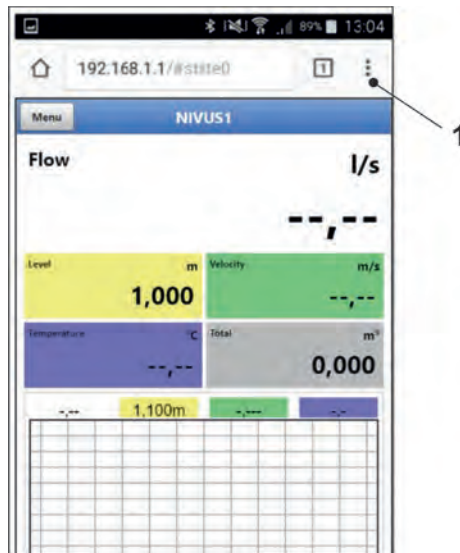
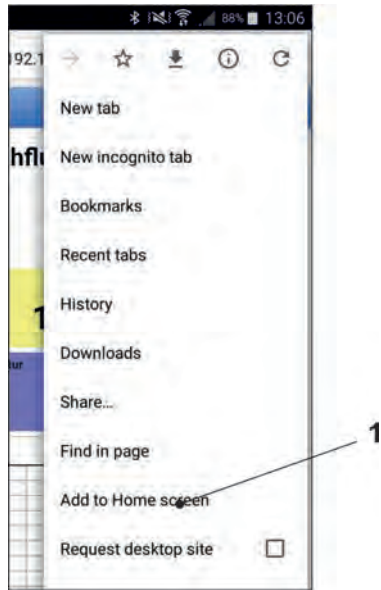

Fig. 31-6 Indication of NFM display in the browser
Fig. 31-7 Add to start screen
After successful connection the display of the NivuFlow Mobile (Fig. 31-6) is shown.
8. To set up a link on the "Home screen" (for direct access), tap the icon for more tabs (Fig. 31-6 Pos. 1) and settings and select "Add to start screen" (Fig. 31-7 Pos. 1).